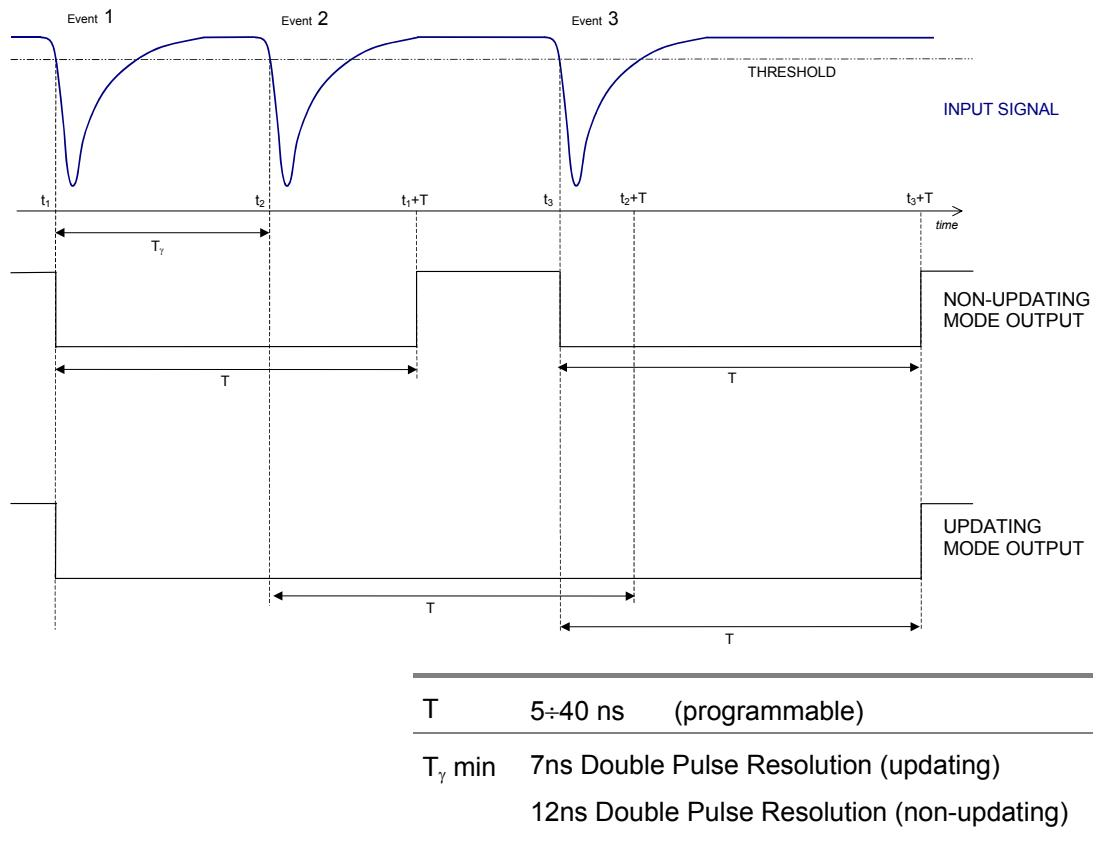

Fig. 3.1: N840-N841 Updating and Non-Updating mode
**Non-Updating output mode:** an input pulse over threshold occurring at  $t_1$  (event 1 in fig. 3.1) sets the channel output active for the programmed duration1  $T$  ( $T=5\div40$  ns). Any event over threshold occurring at  $t$ , with  $t_1 < t < t_1 + T$ , will be ignored.
**Updating output mode:** input pulse over threshold occurring at  $t_1$  (event 1 in fig. 3.1) sets output active for the programmed duration1  $T$  ( $T=5\div40$  ns). Any input event over threshold for  $t_e < t_1 + T$ , will restart the pulse forming stage forcing the output to active value until instant  $t_e + T$ .